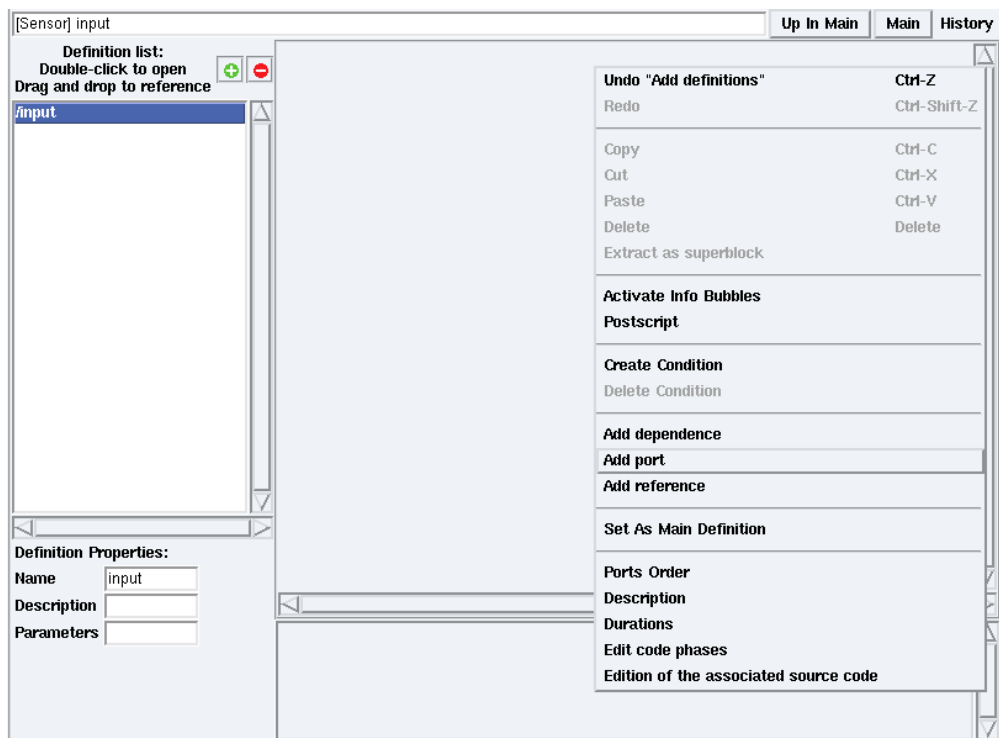
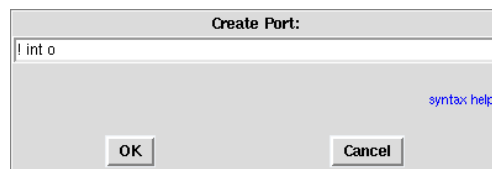
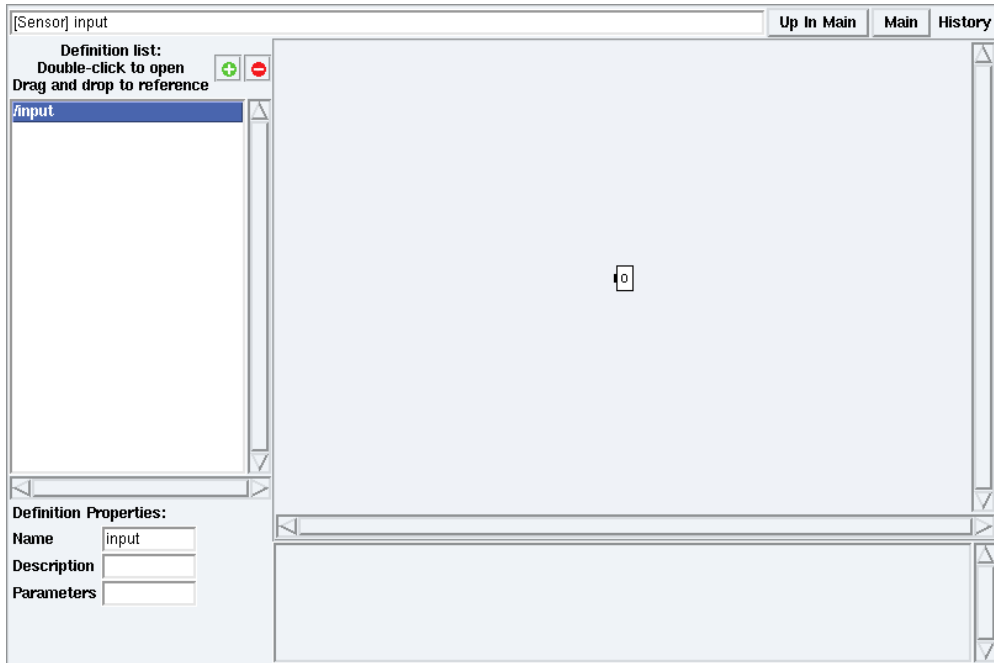

Figure 1.5: Contextual menu → **Add port**
Figure 1.6: **Create Port**
Figure 1.7: Sensor definition window after output port created
- in **input** definition mode, right click on the background and select **Add port** (cf. figure 1.5). It opens a dialog window for the port's direction, type, name and optionally its size. For example type `! int o`, then click **OK** (cf. figure 1.6). It creates the integer output port `o` (cf. figure 1.7) in the sensor definition window.